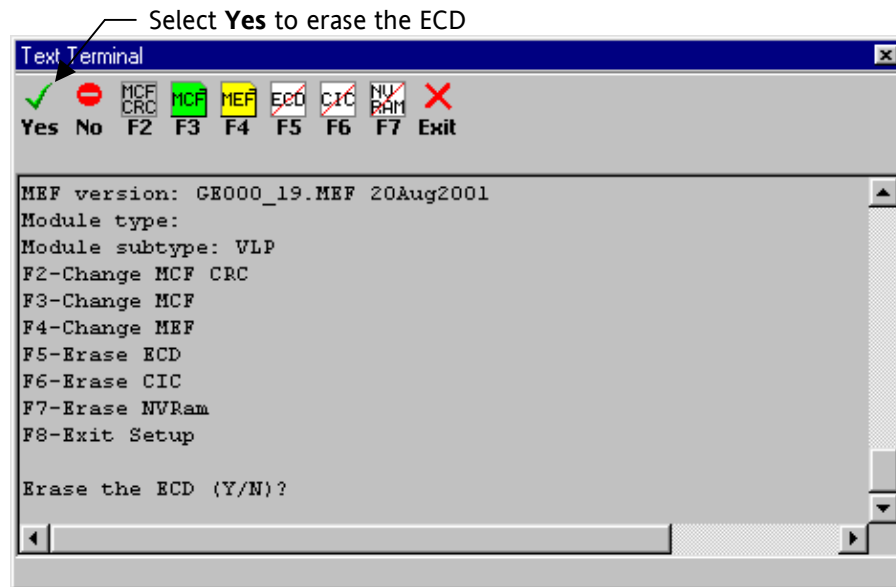

Figure 3-32
4. The prompt “Erase the ECD (Y or N)?” is displayed (figure 3-32). Select the **Yes** button.